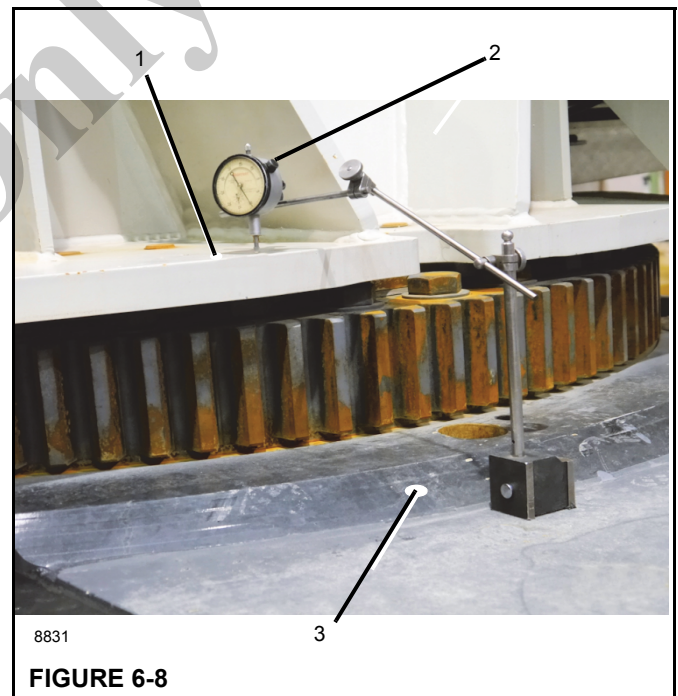

FIGURE 6-8
2. Put a dial indicator (2, Figure 6-8) opposite the boom on the T-box frame (3).
3. Place the dial on the top of the swing bearing (1, Figure 6-8).